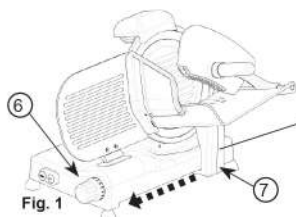

Fig. 2
- Pull the carriage (7) toward the graduate knob (6) and rotate the carriage (7) - fig. 2 / 3.